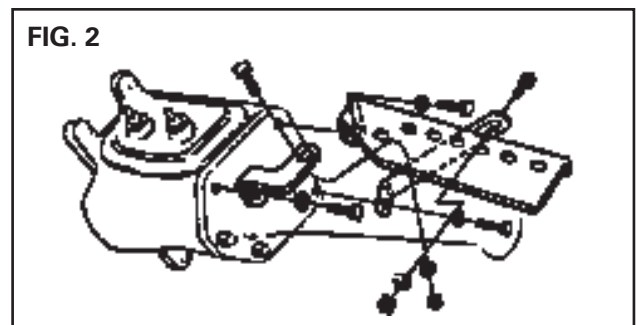
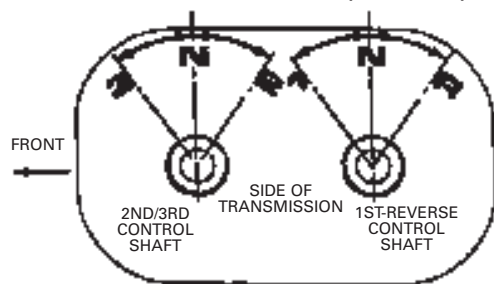

FIG. 3
FIG. 4
1. Be sure both transmission control shafts are in the NEUTRAL position (REFER TO FIG. 3). Remove stock transmission arms and select the correct arms for transmission that is being used. REFER TO FIG. 4.
Use the slots that locate arms in the most vertical position in NEUTRAL. Refer to illustration (FIG. 3) that shows positions and rotation of transmission control shafts. Transmission arms should be in the most vertical position when both control shafts are in NEUTRAL. Use factory hardware to fasten arms to control shafts.
Use "U" bolts and hex nuts supplied to fasten arms to control shafts. REFER TO FIG. 4.